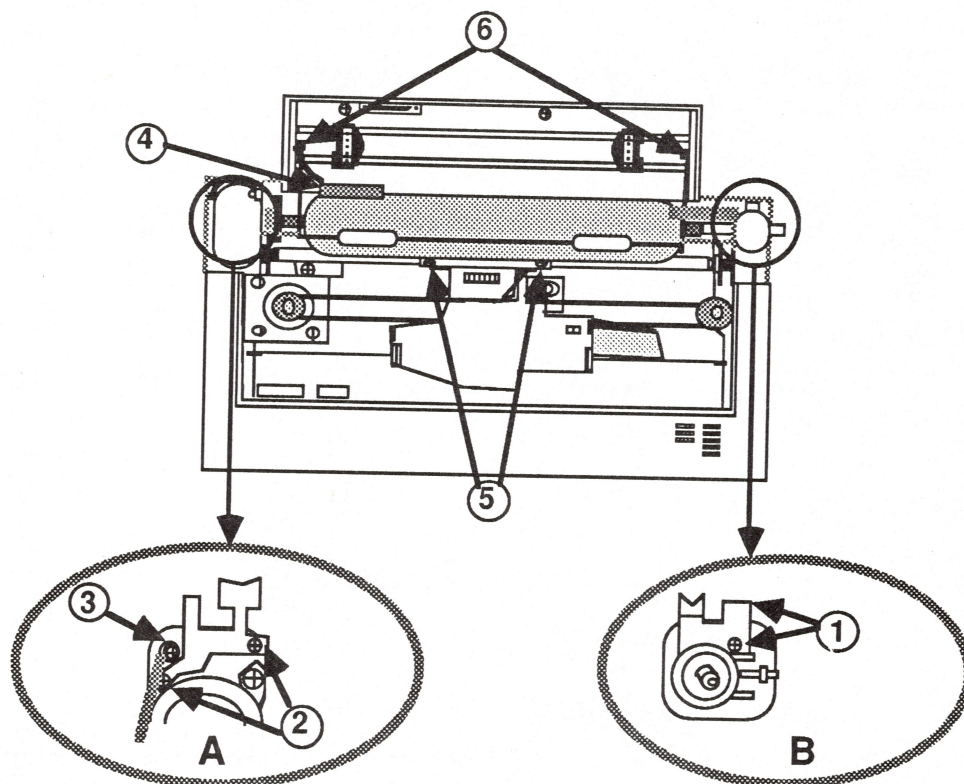

FIGURE 40
5. Position the metal plate on the right side of the platen and replace the screw that holds it (see Figure 40, Detail B, #1).
6. Position the metal plate on the left side of the platen and replace the two screws that hold it (see Figure 40, Detail A, #2).
7. Position the grounding strap and replace the screw that holds it (see Figure 40, Detail A, #3).
8. Locate the small black grounding wire. Solder the wire to the metal plate on the paper empty frame (see Figure 40, #4).
9. Position the paper guide and replace the two screws that hold it (see Figure 40, #5).
10. Replace the paper bail assembly (see Figure 40, #6).